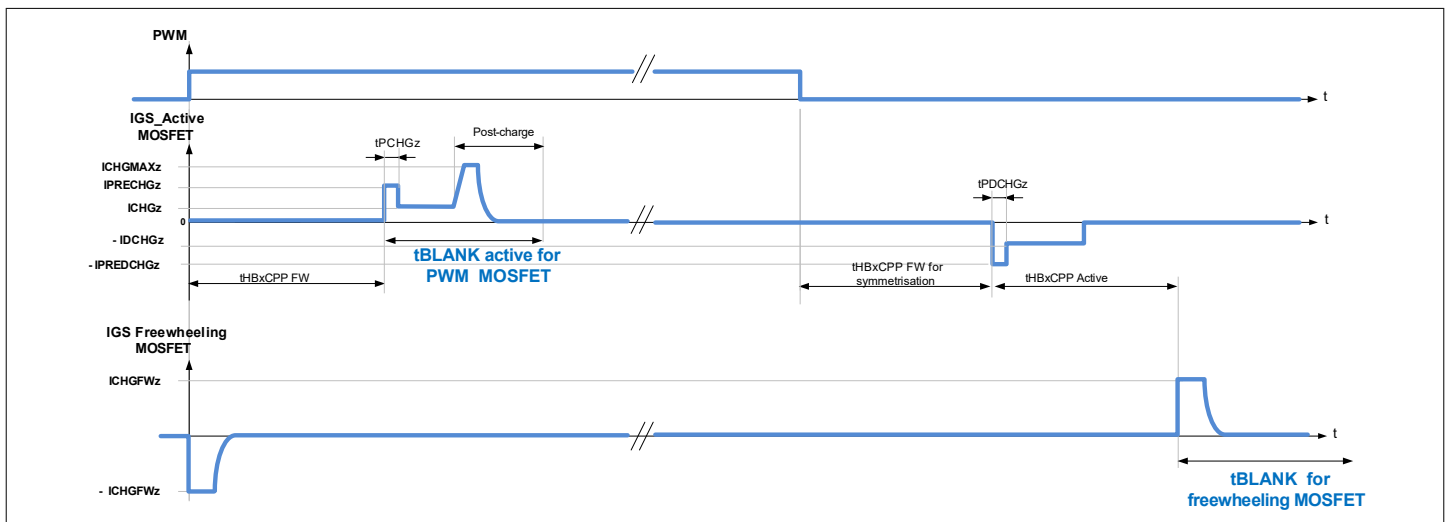
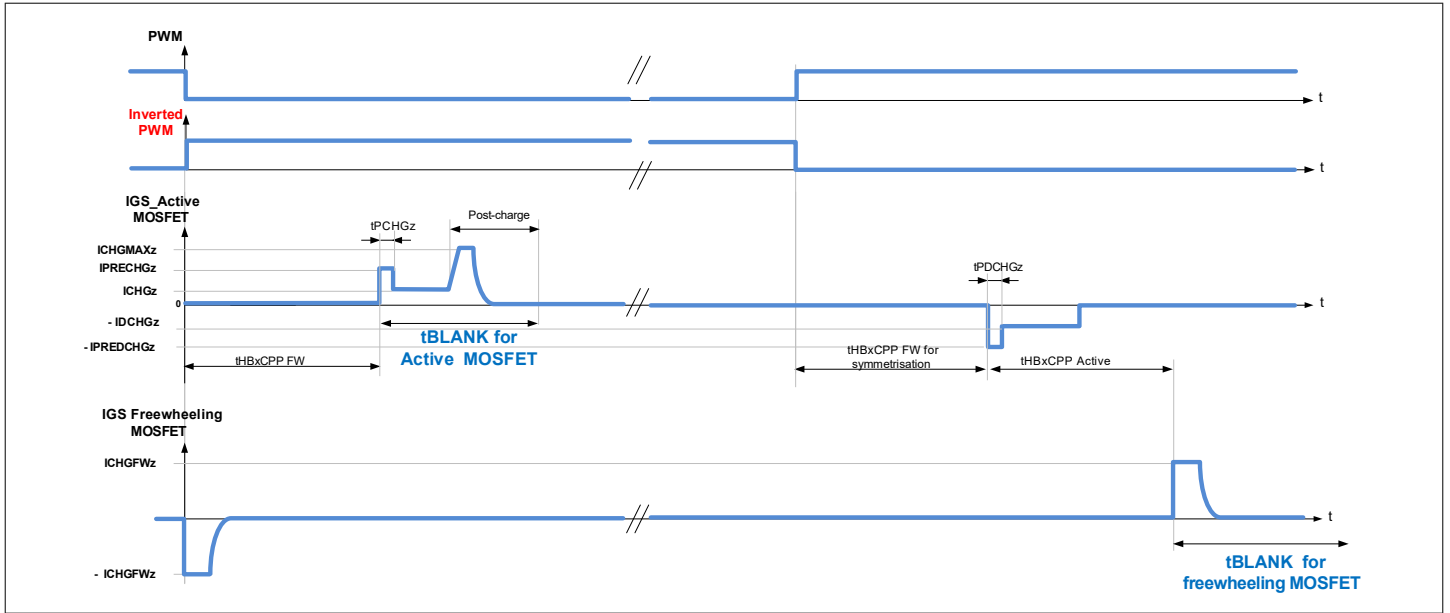

Figure 34 Blank time for half-bridges in PWM operation, detection of generator mode enabled (EN_GEN_CHECK = 1), motor operating as load
Figure 35 Blank time for half-bridges in PWM operation, detection of generator mode enabled (EN_GEN_CHECK = 1), motor operating as generator
- The blank time of the Active MOSFET starts at the expiration of the cross-current protection time of the FW MOSFET (tHBxCCP FW). Refer to Figure 34 and Figure 35.
- The blank time of the FW MOSFET starts after expiration of the cross-current protection time at turn-off of the Active MOSFET (tHBxCCP Active). Refer to Figure 34 and Figure 35.